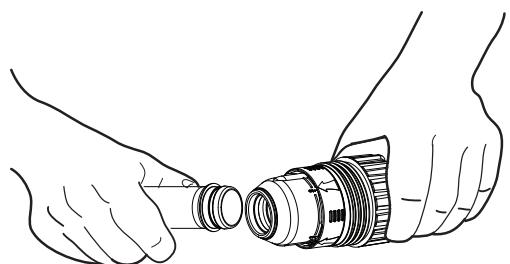

Figure 6
- Pull inner extension tube firmly away from cup assembly to separate (see Figure 6), and set aside.